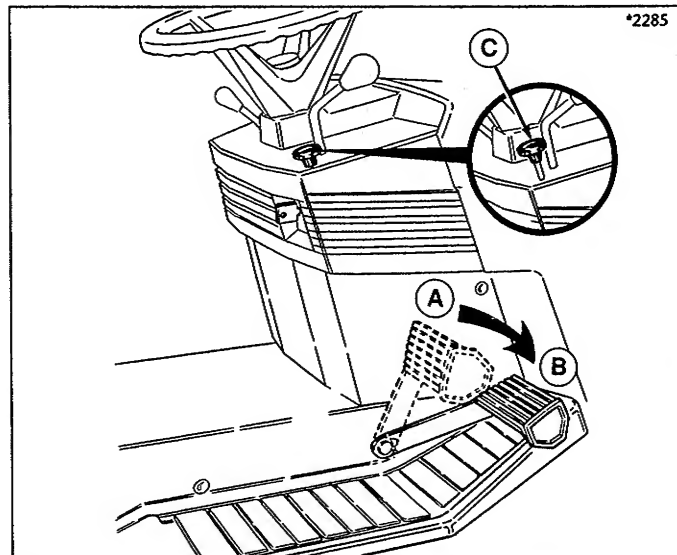

Figure 6. Clutch/Brake/Parking Brake Pedal - Hydro Models
12. Before leaving operator's position, set the parking brake and disengage the electric clutch. (The parking brake is shown set in figure 6.) Set the engine speed control to SLOW and allow the engine to idle for 20 seconds. Turn the key to OFF and remove it. Wait for moving parts to stop.
Refer to figure 6. Depressing pedal from position A to B disengages transmission drive belt, applies the tractor brake and returns the transmission control lever to neutral. Parking brake is applied at position B when parking brake control knob (C, figure 6) is pulled up with pedal fully depressed.